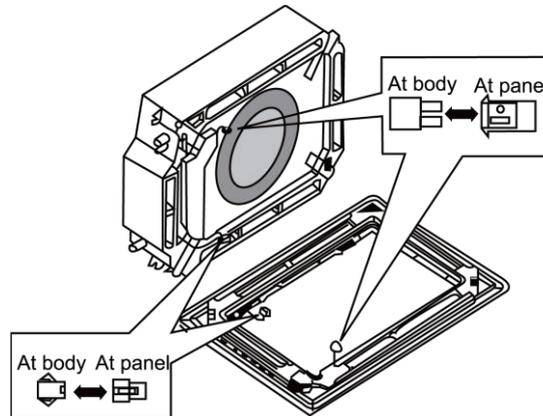

Fig 4.4.3
- (3) Connect the decoration panel terminals (Female) to body terminals (male) as shown in figure4.4.3.